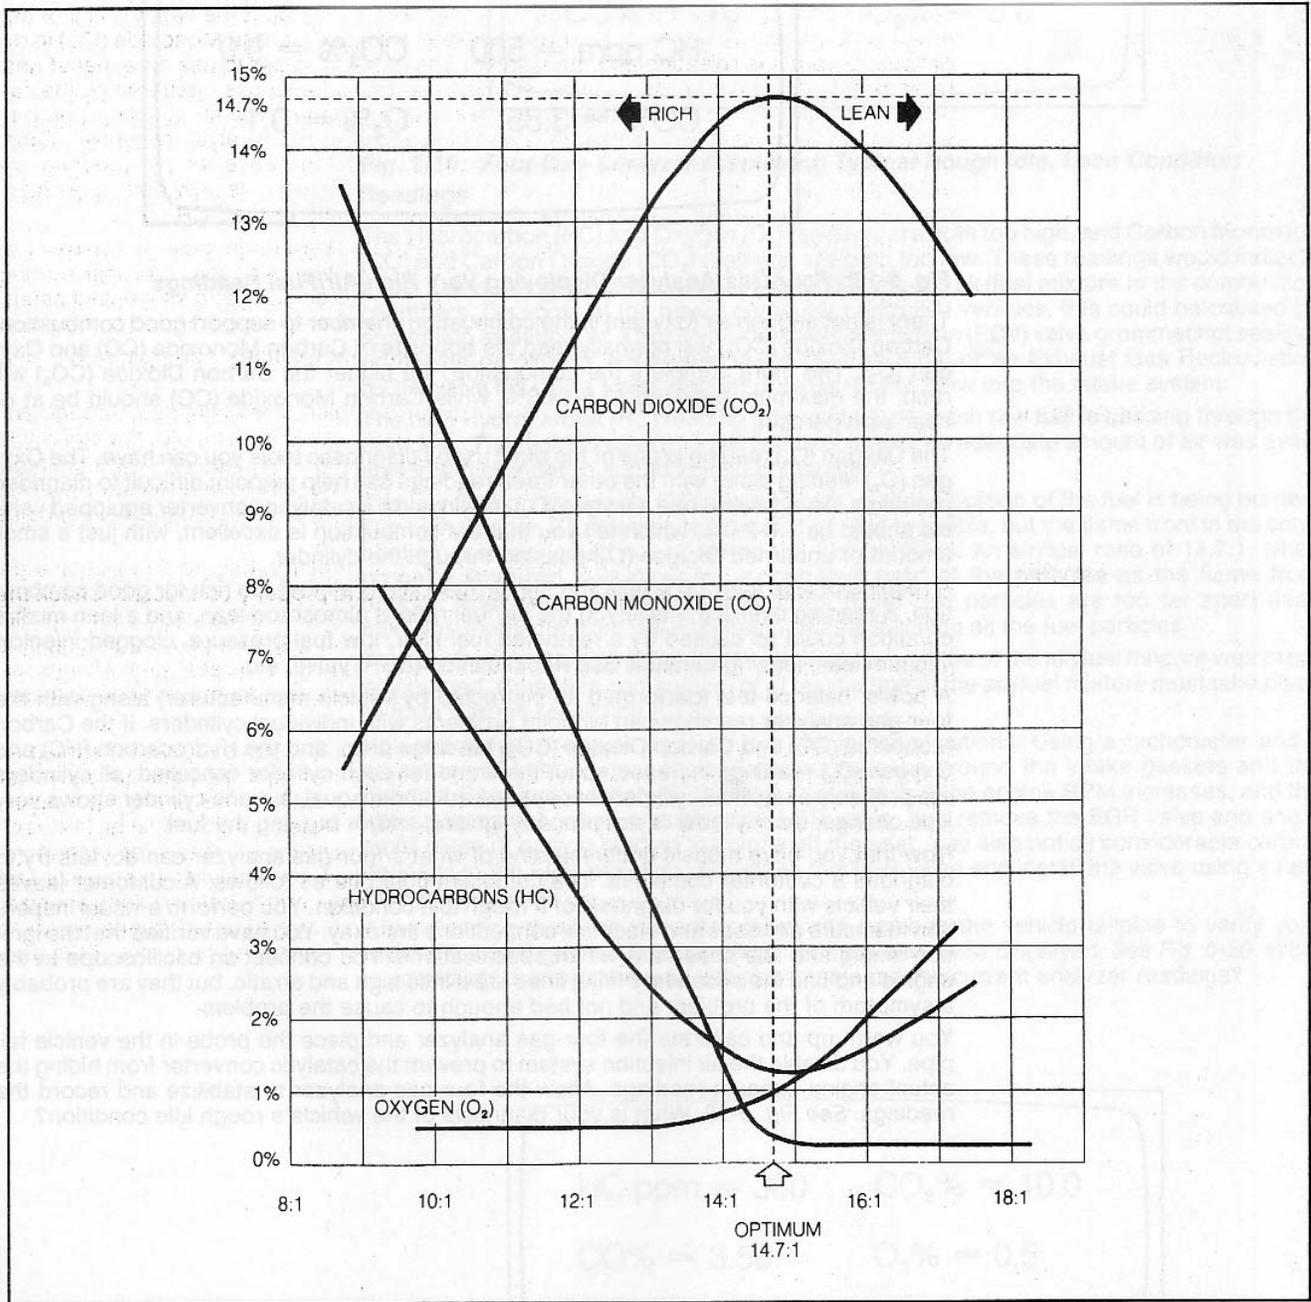

Fig. 5-17: Air/Fuel Ratio Comparison Chart
Remember, high Hydrocarbon (HC) and high Oxygen (O_2) readings are caused by misfires and/or a too lean mixture. If the spark plug does not fire or the air/fuel mixture is too lean to support combustion, raw fuel (HC) and the Oxygen (O_2) from the cylinders will pass through the engine unchanged. The following graph illustrates the relationship of the four-gasses and where the rich/lean side of the air/fuel ration begins. See Fig. 5-17.